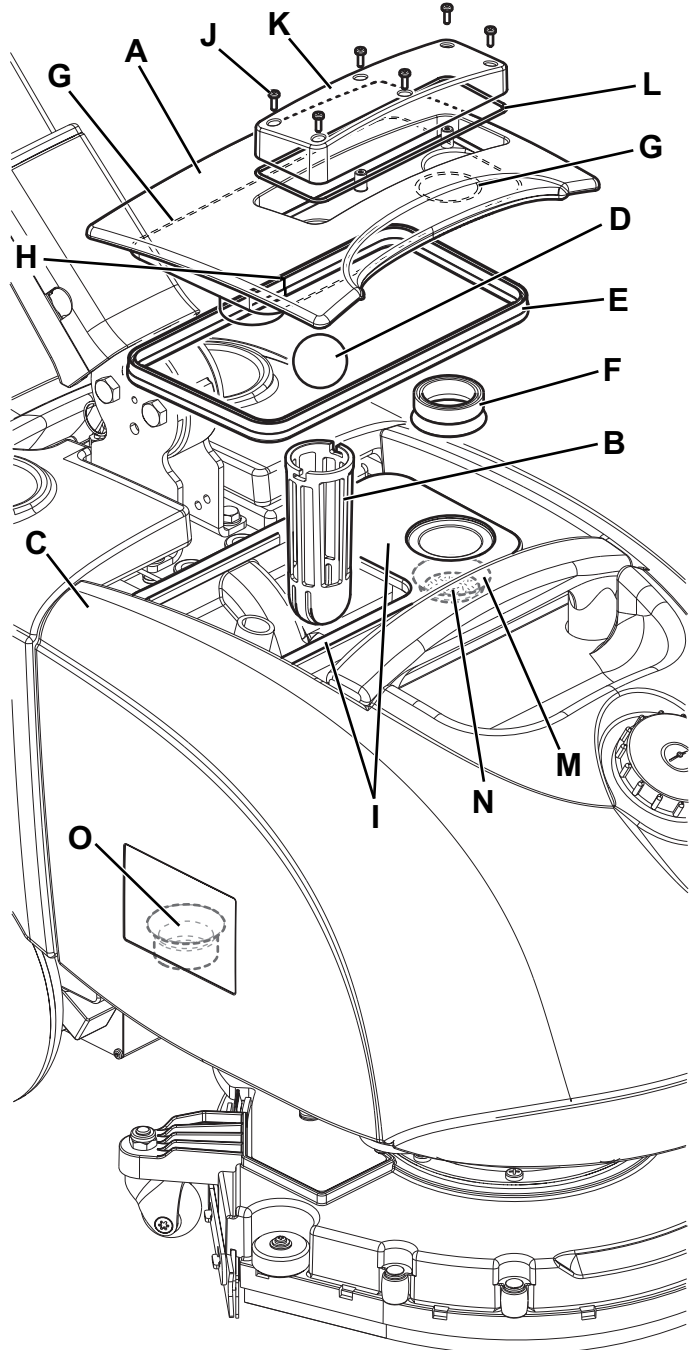

Figure 5
2. Turn the knob (32) to "0" and disconnect the battery (7).
3. Lift the cover (A, Fig. 5), then clean and wash the cover and the vacuum grid (B) with clean water. Drain the water from the tanks (C) and clean them.
4. If necessary, disengage the grid (B) by turning it and remove the float (D), than clean with care and reinstall.
5. Check the gaskets (E) and (F) for integrity.